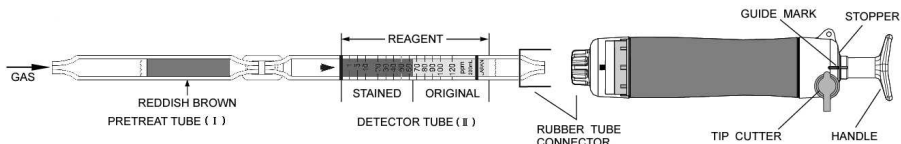

Fig.1
- ① Break both ends of the pretreat tube (I) and detector tube (II), and connect each end of the pretreat tube and detector tube with connecting tube as shown in Fig.1.
- ② Insert the detector tube into the aspirating pump securely as shown in Fig.1. (Arrow mark shall point to the pump.)
- ③ Align the guide marks on the shaft and stopper of the aspirating pump.
- ④ Pull the pump handle at a full stroke until it locks and wait for 1.5 minutes or until the completion of sampling is confirmed with the flow indicator of the pump. (See descriptions about the flow indicator in the instruction manual of the pump.)
- ⑤ Turn the pump handle right or left by 1/4 (90°), push it toward the pump without removing the detector tube from the pump and repeat the step ③~④ once more.
- ⑥ On completion of sampling, read the scale at the maximum point of the stained layer.
- ① Temperature; Correct the tube reading by following temperature correction table.